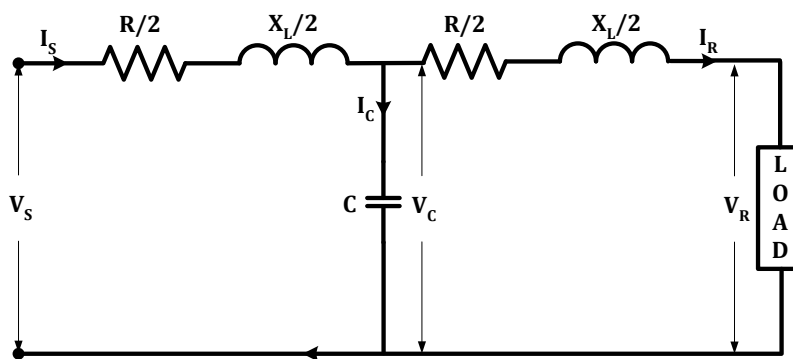

Figure 1.9 Circuit of Nominal T Method
- In this method, the whole line to neutral capacitance is assumed to be concentrated at the middle point of the line and half of the resistance and reactance are lumped on either side as shown in fig. 1.9.